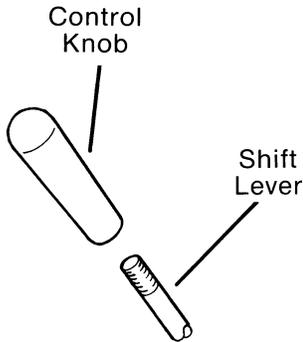

FIG. 6
- H. Screw control knob onto shift lever. (Fig. 6)